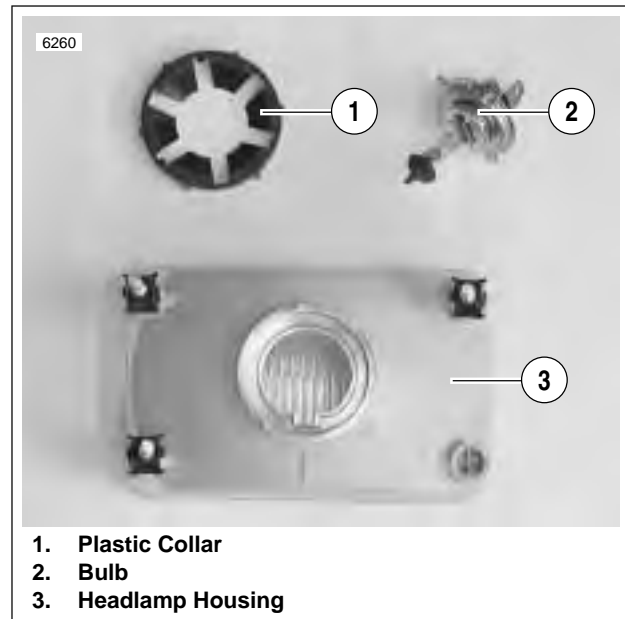

Figure 7-37. Headlamp Bulb
Self-discharge is a normal condition and occurs continuously at a rate that depends on the ambient temperature and the battery's state of charge. Batteries discharge at a faster rate at higher ambient temperatures. To reduce the self-discharge rate, store battery in a cool (not freezing), dry place. See Figure 7-37.
5. See Figure 7-37. Remove headlamp bulb.
- a. Twist plastic collar (1) counterclockwise to remove.
- b. Pull bulb (2) from headlamp housing (3).
1. See Figure 7-37. Install headlamp bulb.
- a. Insert bulb (2) into headlamp housing (3). Metal tab on bulb must fit slot on headlamp housing.
- b. Align tabs on plastic collar (1) with slots on headlamp housing (3). Install collar by turning clockwise.